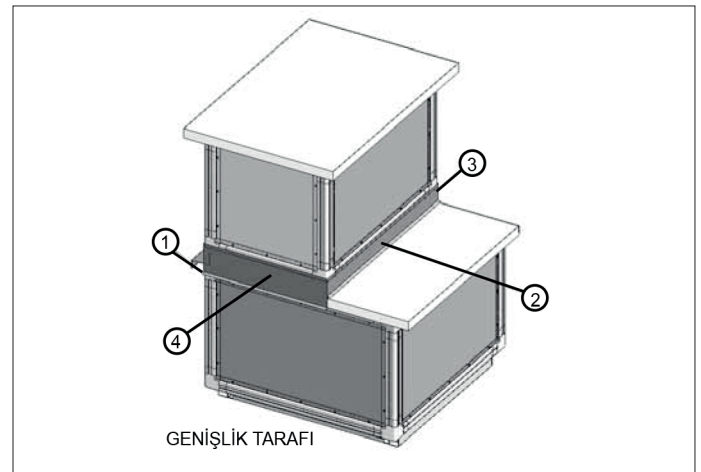

Fig. 39. Unit with unequal widths - situation A
- Direction 1: Cut the connection profile to the correct length and mount it on the correct side (See Fig. 39).
- Direction 2: Cut the connection profiles to the correct length and mount them on the correct sides (See Fig. 39).
- Directions 1 and 2: Cut the connection profiles to the correct length and mount them on the correct sides (See Fig. 39).